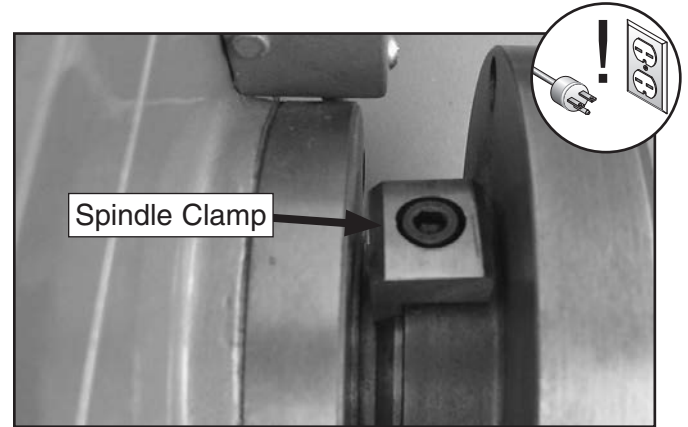

Figure 22. Spindle clamp.
3. Remove both spindle clamps from behind the chuck or faceplate (see **Figure 22**).
Note: Make sure the spindle clamp tangs properly fit into the spindle groove before tightening the set screw (see **Figure 22**).